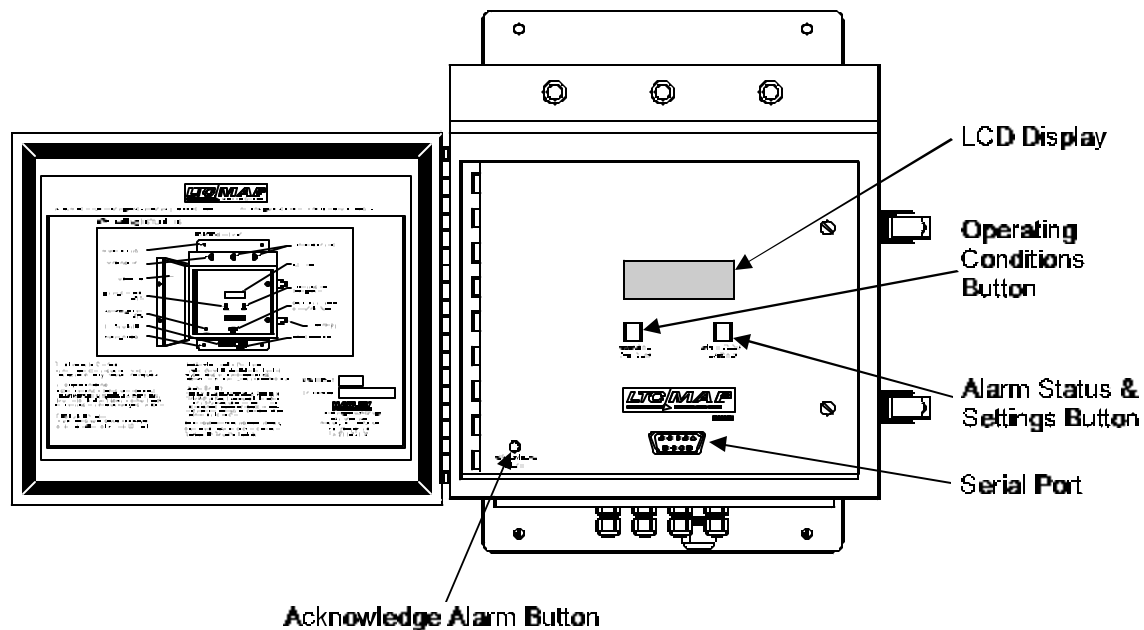

Figure 3-10: Serial Port Location
3. Connect a null modem cable between the front panel serial port and the serial port on the personal computer. See Figure 3-10 for serial port location.